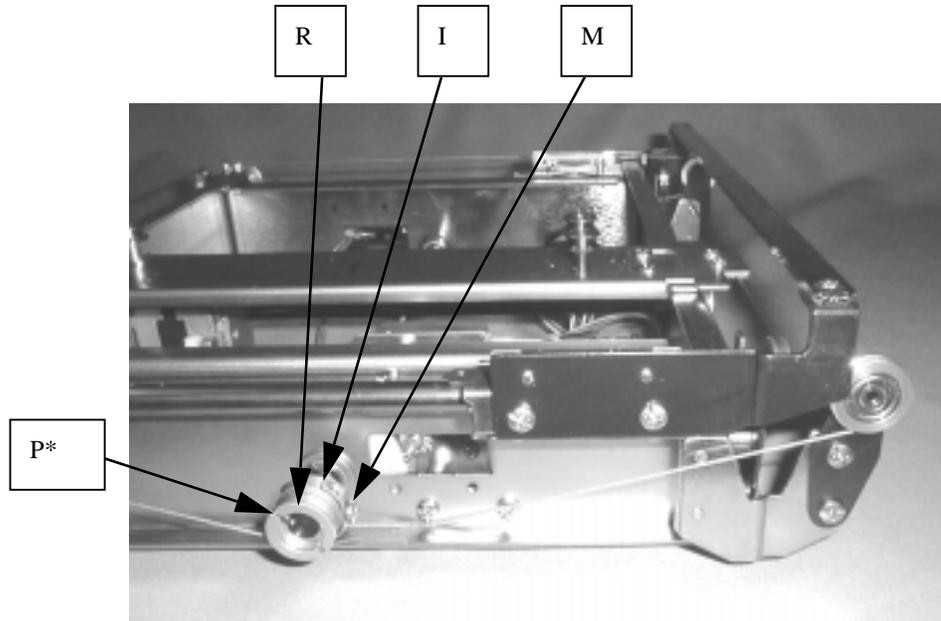

FIGURE 16-7
11. Put ball (R) mounted at the wire tip into the spot-faced hole which is the same phase as cut (P*) as shown in Fig.16-7. Set the protrusion of the wire holder (I) to meet the other spot-faced hole, and fix the wire holder (I) by setscrew (M).